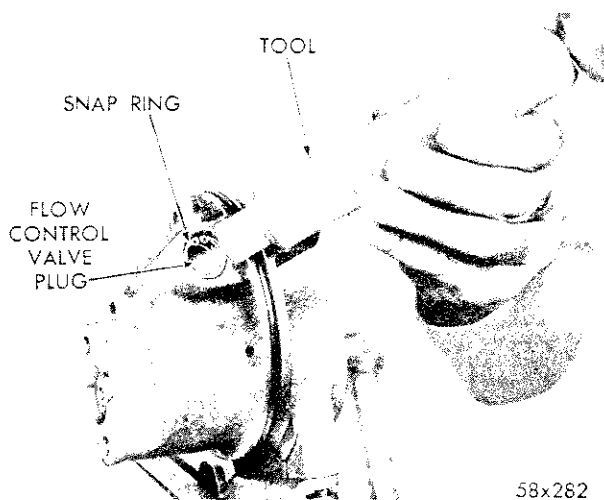

Fig. 52—Installing Flow Control Valve Plug
(1) Install the flow control valve spring and valve.
(2) Drive a new plug into base with Tool C-3233 only far enough to place the snap ring in the bore (Fig. 52) then drive snap ring and plug with Tool C-3233 until snap ring seats in its groove in the housing bore.